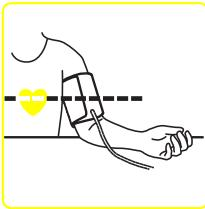

Fig. 6
7. Sit on a chair and place your arm on the table so that the cuff is at the same level as your heart (Fig. 6).